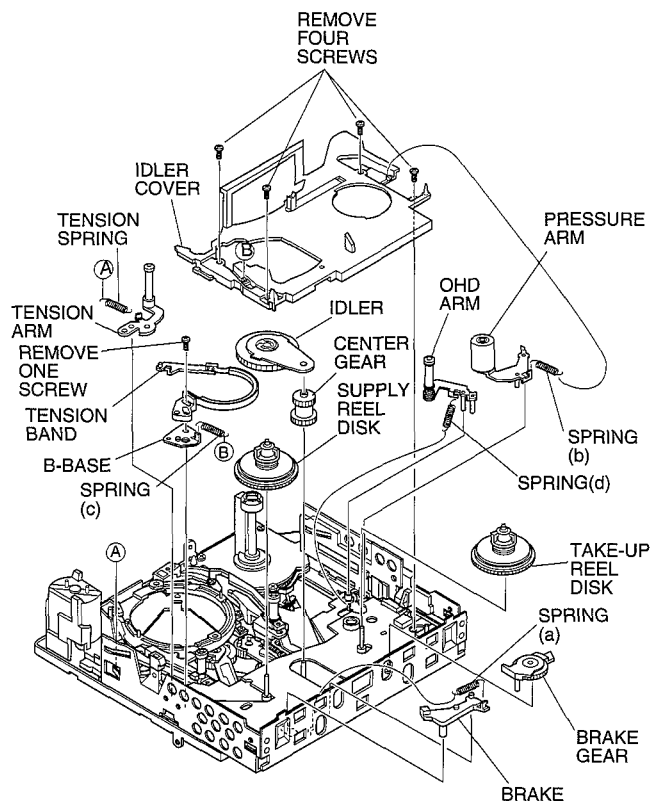
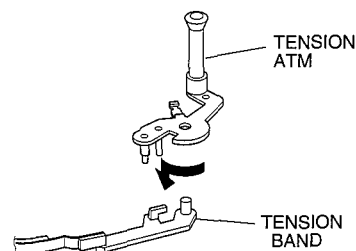

Fig.2-4
Fig.2-5
- (1) Release the spring (a) between the brake and sub chassis. (See Fig. 2-4)
- (2) Release the spring (b) between the pressure arm and idler cover.
- (3) Release the spring (c) between the B-base and idler cover.
- (4) Remove 4 screws.
- (5) Remove the idler. (See Fig. 2-4)
- (6) Pull up the center gear.
- (5) Remove the brake. (See Fig. 2-4)
- (5) Pull up the brake gear. (See Fig. 2-4)
- (5) Pull up the take-up reel disk. (See Fig. 2-4)
- (5) Pull up the pressure arm. (See Fig. 2-4)
- (6) Release the spring (d) between the sub chassis and OHD arm.
- (7) Pull out the OHD arm.
- (5) Release the tension spring. (See Fig. 2-4)
- (6) Remove 1 screw holding the tension band and B-base.
- (7) Remove the tension band with the tension arm.
- (8) Remove the tension band from the tension arm in the direction of the arrow. (See Fig. 2-5)
- (9) Pull up the supply reel disk. (See Fig. 2-4)